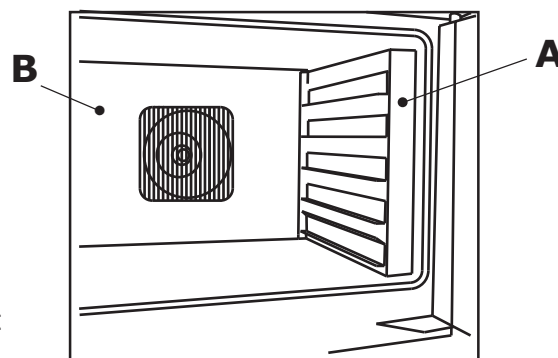

Fig. 18
- remove the tray supports (**A-Fig.18**) or the fan grille and the fan cover-grid (**B-Fig. 18**);